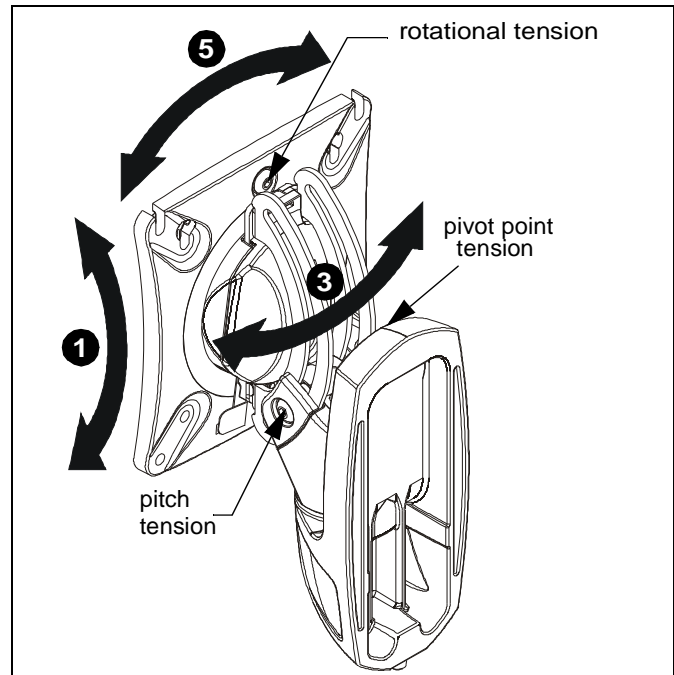

Figure 8
5. The monitor may be adjusted 90 degrees in either direction in order to provide a portrait view of the monitor. (See Figure 8)
6. Use 3/16" hex key (N) to adjust rotational adjustment screw to adjust rotational tension. (See Figure 8)
1. Adjust pitch to desired tilt position. (See Figure 8)
2. Adjust pitch tension screw to change the adjustment tension. (See Figure 8)
3. Adjust pivot position as desired. (See Figure 8)
4. Use 3/16" hex key (N) to adjust pivot point tension screws to change pivot adjustment tension. (See Figure 8)